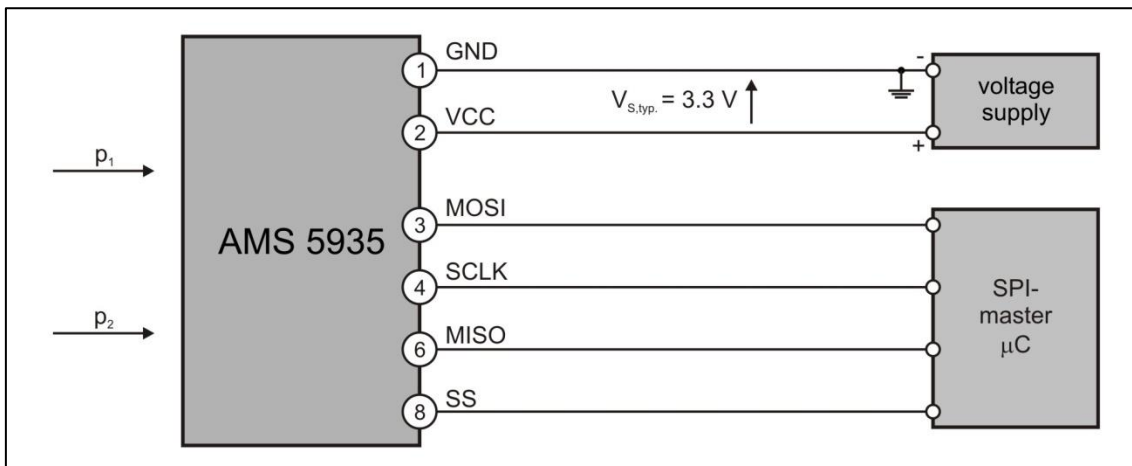

Figure 3: Principle electric circuitry for SPI communication
In order to read out the data using SPI, the basic circuit for the AMS 5935 sensor is shown in *Figure 3*. For SPI communication, PIN1 (GND), PIN2 (VCC) and the SPI-bus lines at PIN3 (MOSI), PIN4 (SCLK), PIN6 (MISO) and PIN8 (SS) have to be connected.
AMS 5935's digital interface supports communication via an SPI bus, using the electrical connection illustrated in Figure 3. To configure AMS 5935's digital I2C/SPI interface for SPI communication, the first interaction after a power on has to be the activation of the SS line. During the start-up process (2.5 ms after power on) no transition on the SCKL line is allowed. The SPI configuration of AMS 5935's digital interface has to be renewed after each power on or after a power-on-reset (POR).